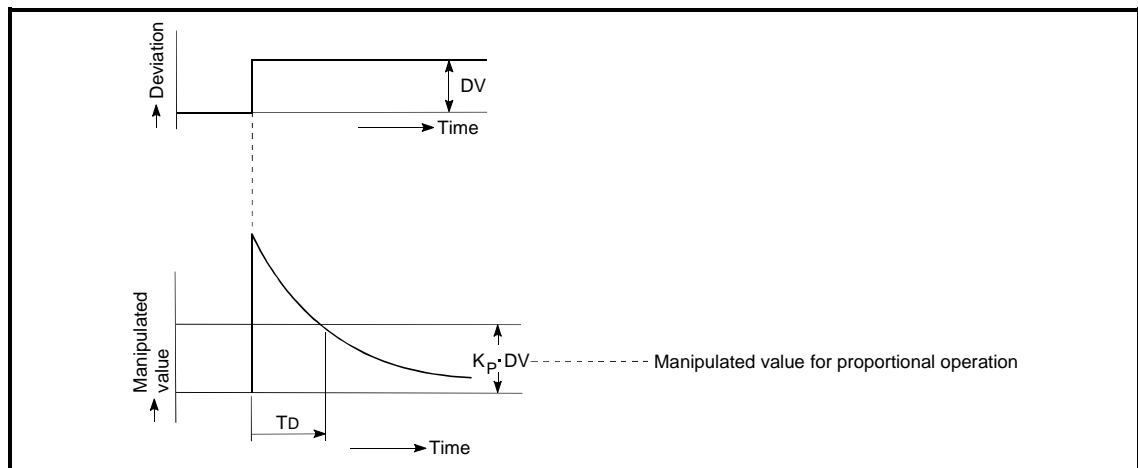

Fig. 1.5 Derivative operation when the deviation is a constant
- (3) The derivative operation when the deviation is a constant value stepped response is shown in Fig. 1.5.